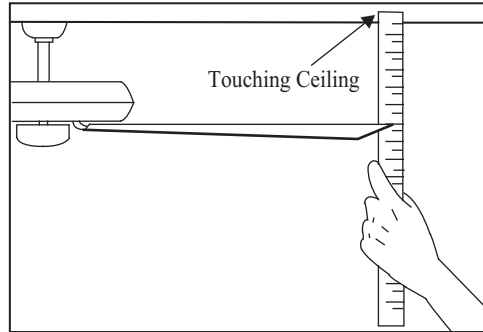

Figure 17
- Select a point on the ceiling above the tip of one of the blades, then select any fan blade and measure from the center of the selected blade to the point on the ceiling (as shown in Figure 17). Rotate the fan until the next blade is positioned and repeat the measurement using the same point from the ceiling for every blade. Measurement deviations should be within $1/8''$.